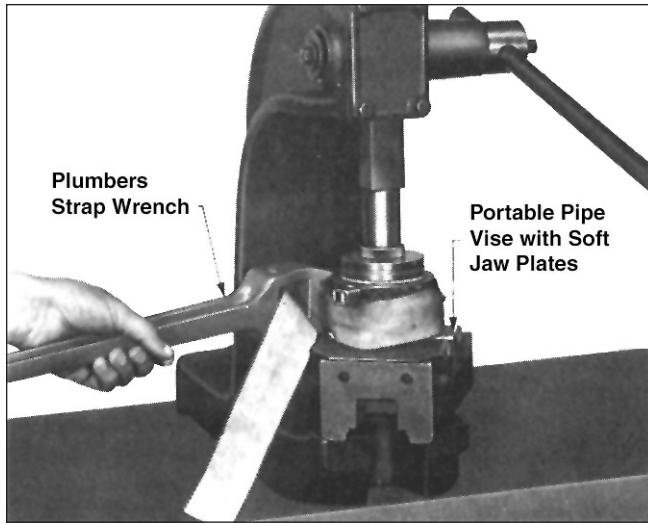

Figure 5-10. Winding Load Brake Gear using a Strap Wrench to set up Load Brake Spring
4. The brake spring must be pre-loaded at assembly to a torque of 10 to 14 lb.-ft. This is accomplished using a plumber's strap wrench to wind (rotate) load brake gear to set up spring (Figure 5-10) while pressing brake flange into place using an arbor press. Clamp pinion end of shaft into a portable vise to keep brake from rotating in press. Use brass or copper jaw plates on vise to protect pinion gear teeth. Wind gear counterclockwise (viewing brake from flange end) with strap wrench and press down on flange until snap ring groove in shaft is exposed allowing snap ring to be installed. Use extreme care not to over wind spring as yield will result and final spring torque will be reduced. Do not wind gear beyond point necessary to install snap ring in groove.